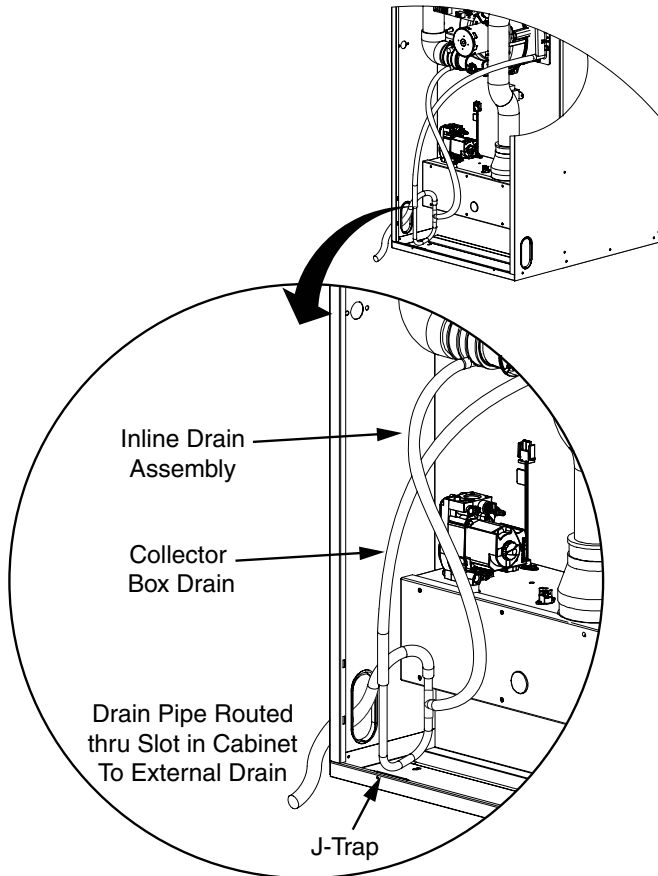

Figure 11. Condensate Drainage
- The condensate drain may exit through the left or right slots in the bottom of the furnace (Figure 11). Make sure the flexible drain hose is not kinked.
- Remove the collector box soft tube (Figure 11) and verify the exit from the collector box is clear of any debris or obstructions.